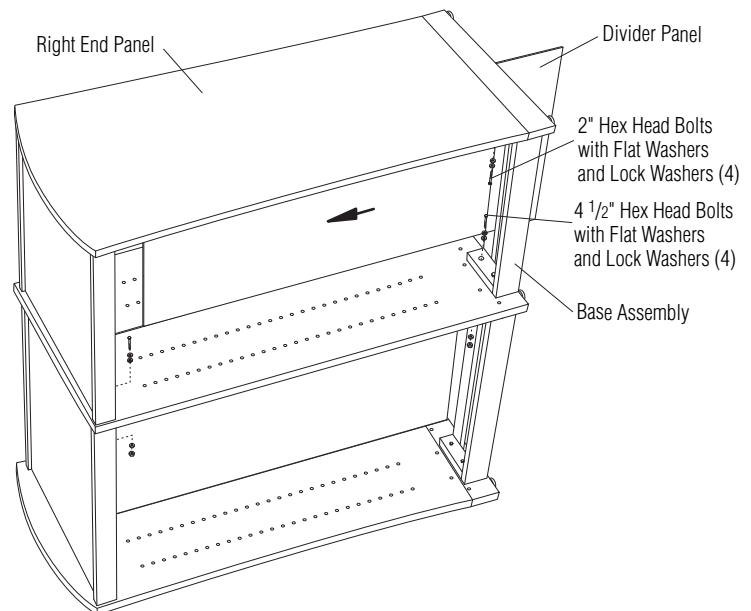

Figure 6
6. Insert four 4 1/2" hex head bolts with a lock washer and a flat washer from the inside of the top assembly through the adder panel and previously installed top assembly (Figure 6). Tighten.
7. Position the base assemblies for the adder unit by aligning the holes with the holes in the adder panel. Insert four 4 1/2" hex head bolts with a lock washer and a flat washer from the inside of the base assemblies through the adder panel and previously installed base assemblies (Figure 6). Tighten.